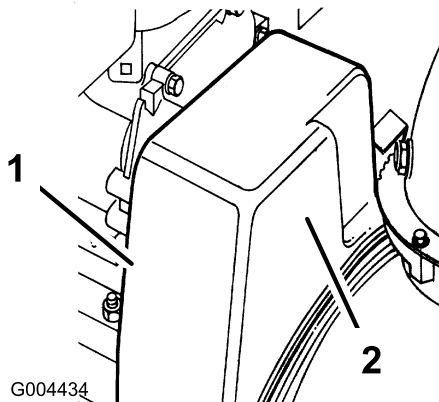

Figure 39
2. Remove the 2 flange-head bolts that hold the belt cover in place and set the cover aside (Figure 39).
1. Remove the 2 flange-head bolts that hold the belt cover in place and set the cover aside (Figure 39).